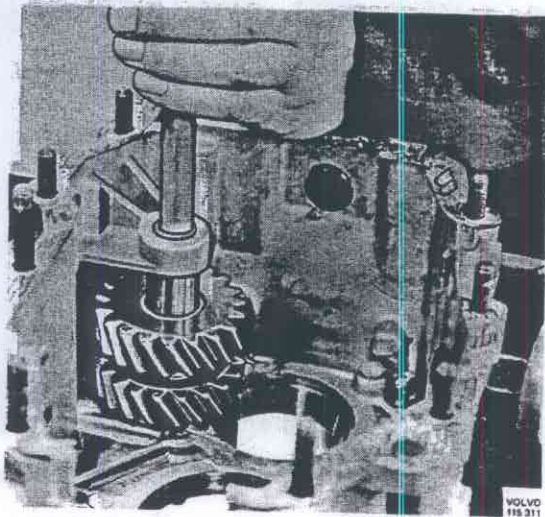

Fig. 43-65. Driving out reverse gear shaft
25. Drive out backwards the shaft for the reverse gear, Fig. 43-65, and remove the gear.